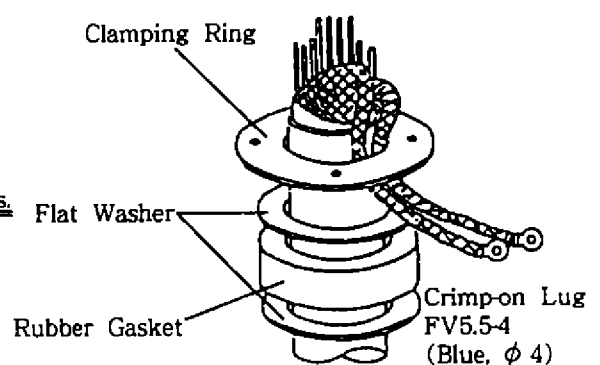

Figure 2-7
- 6) Referring to Figure 2-7 (RW-4873) or Figure 2-10 (RW-6895), pass the outer and inner shields between the signal cable and the clamping ring. Fasten the cable gland.